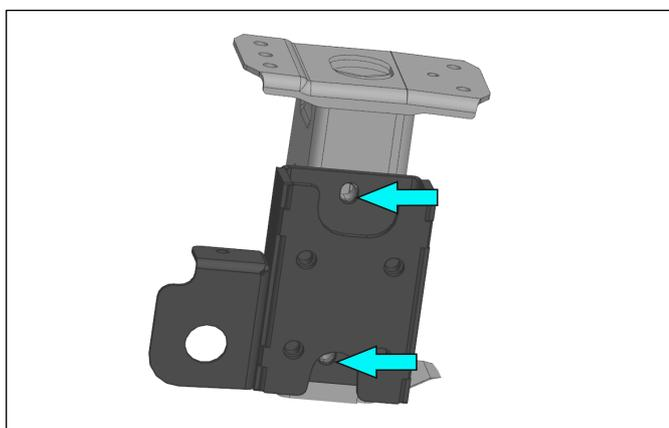

Fig.26
26. Install recovery point bracket (item 41) on the left side of the vehicle and fix it using OE bolts as shown in fig.26.